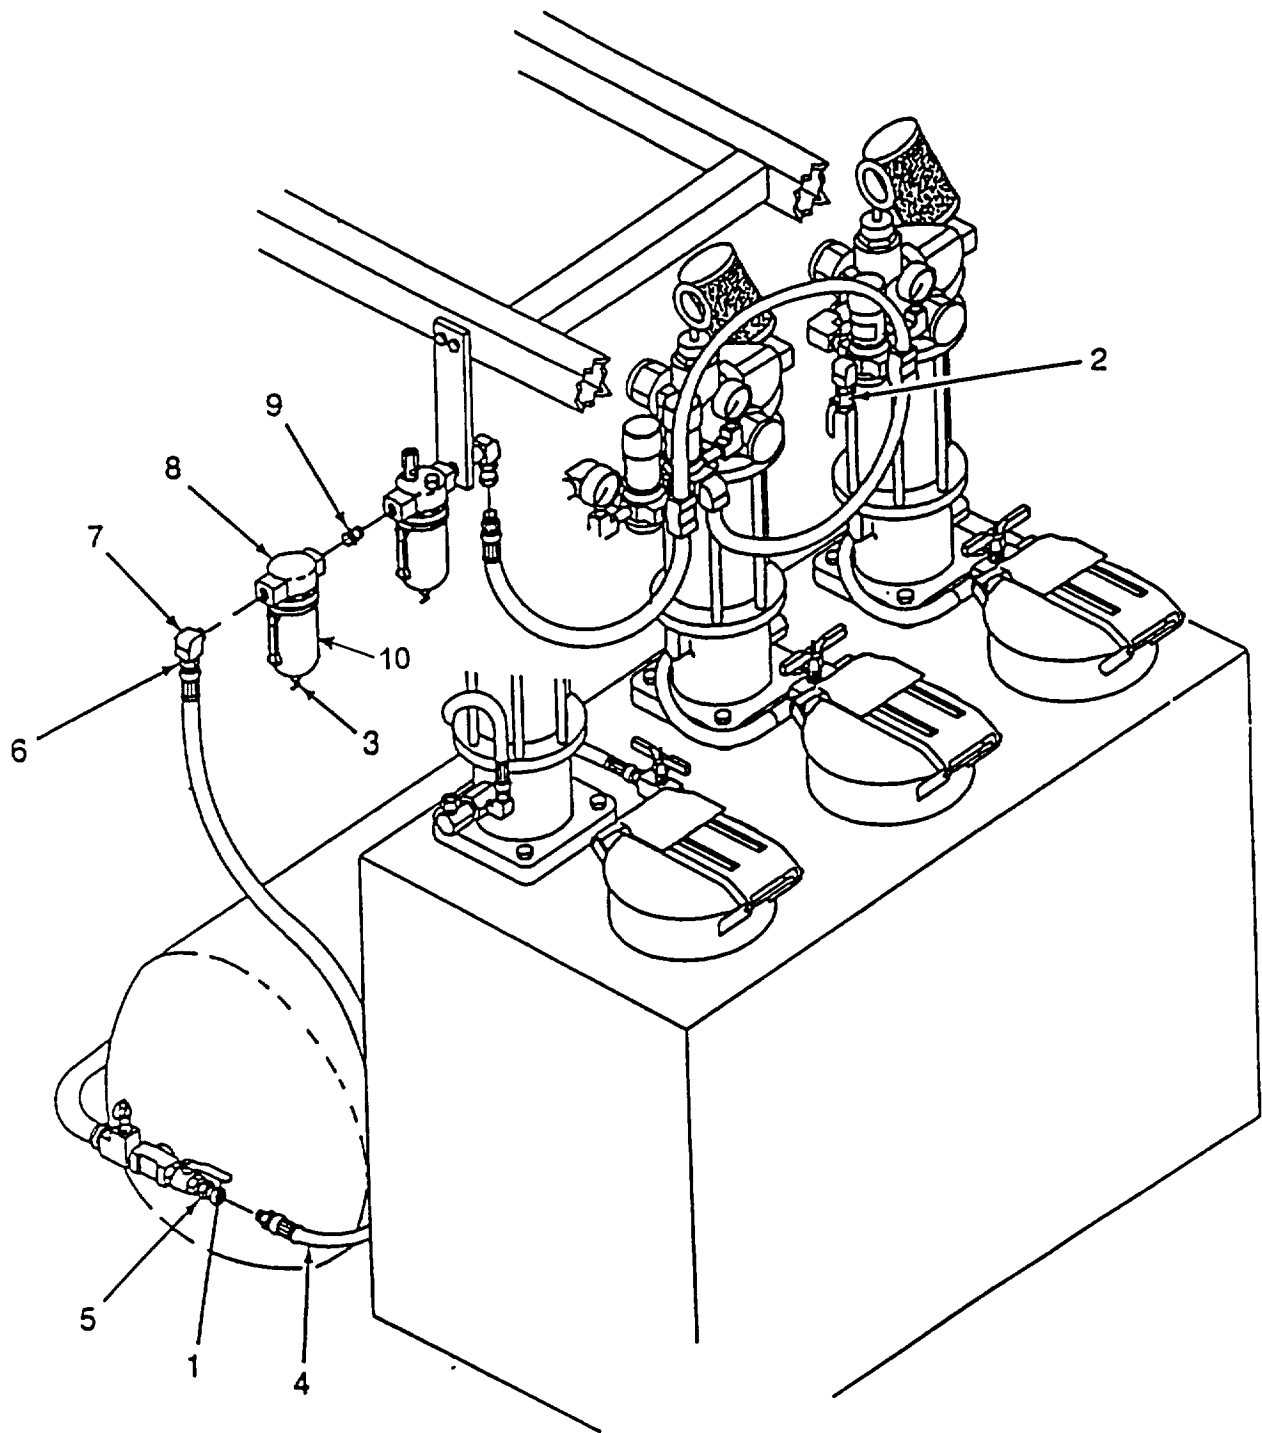

Figure 4-4. Air Filter/Moisture Separator
a. Removal. (Refer to Figure 4-4.)
- (1) Shut off air flow by turning ball valve handle (1) to "off" position.
- (2) Vent air pressure completely by turning lever (2) to "open" position.
- (3) Open petcock drain (3) and drain moisture.
- (4) Unscrew air filter reservoir bowl (10).
- (5) Disconnect hose (4) at swivel adapters (5 and 6).
- (6) Remove swivel adapter (6) and street elbow (7) from air moisture separator (8)
- (7) Remove air moisture separator (8) from nipple (9).